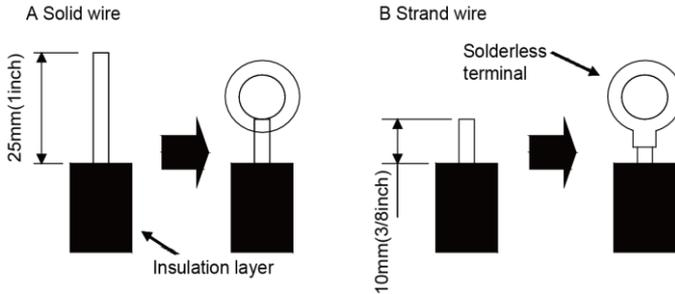

Fig. 4.37
- (1) For solid core wiring (Fig. 4.37)
- (2) For stranded wiring (Fig. 4.37) Use 14-4 AWG 600V rated for interconnecting wire.